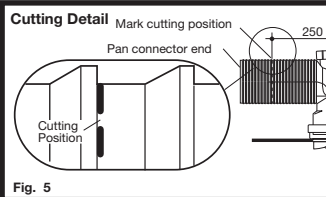

Fig. 5
- 6- Cut pan connection end at the back of the serration which is nearest to the mark. Remove any rough edges and chamfer with fine file, as detailed in Fig. 5.